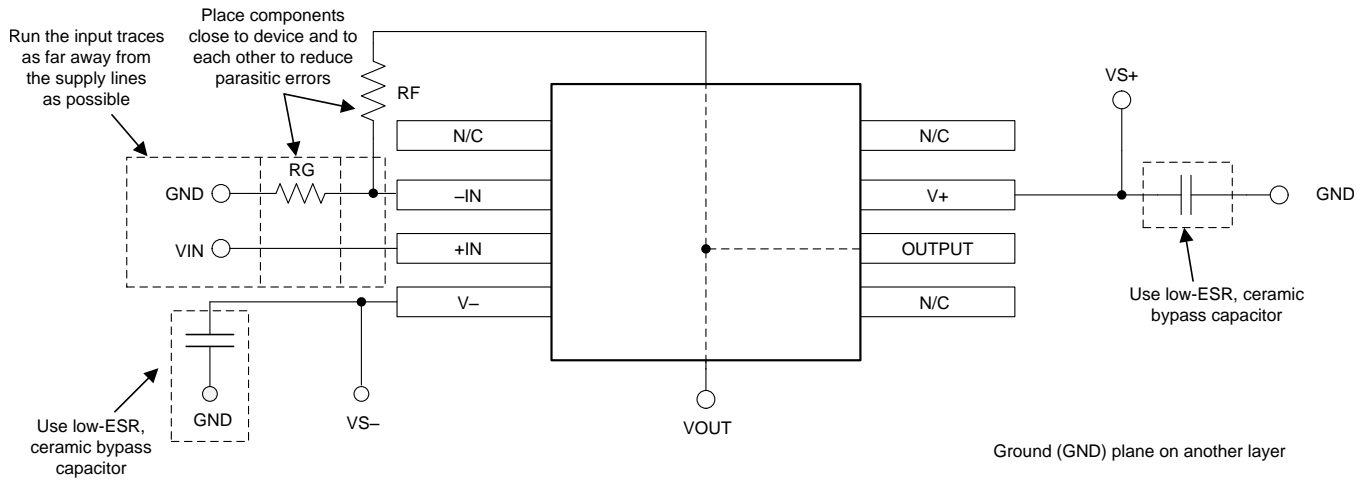

图 45. Operational Amplifier Board Layout for a Noninverting Configuration
- Place the external components as close to the device as possible. As illustrated in 图 45, keeping R_F and R_G close to the inverting input minimizes parasitic capacitance.